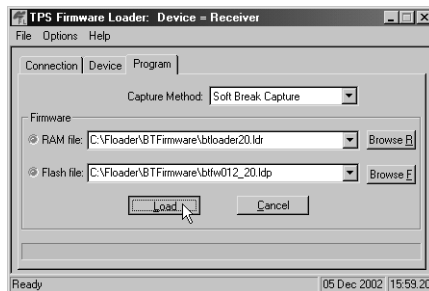

Figure 4-22. Get Device Type
1. In FLoader, select the **Device** tab and set the Device Type as Receiver (Figure 4-22).
2. Click **Get from Device** for device information (Figure 4-22).